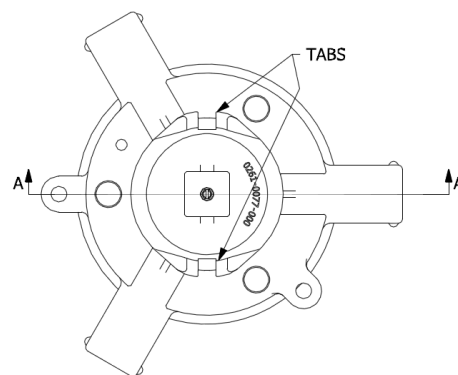
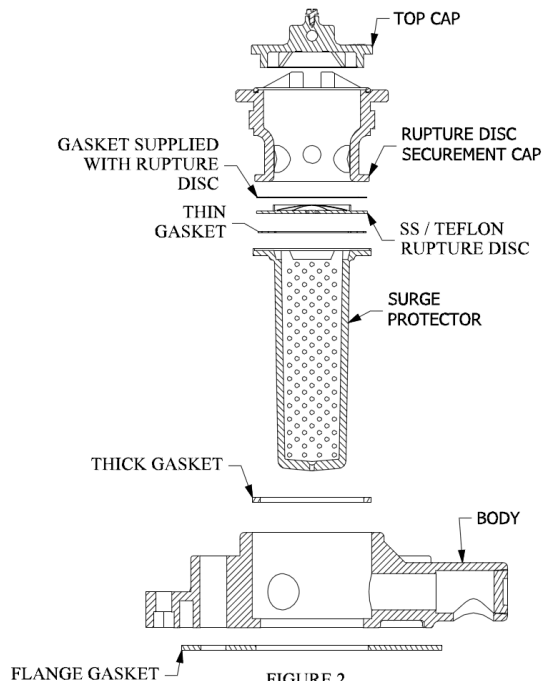

FIGURE 1
FIGURE 2
5. Remove the rupture disc securement cap and the top cap. Place the gaskets, surge protector, and rupture disc as shown in Figure 2.
10. Replace the rupture disc securement cap over the stainless steel/Teflon rupture disc as shown in Figure 2. Prior to tightening, ensure the rupture disc is centered. Tighten the rupture disc securement cap until hand-tight. Lay the Salco Products Quick Inspect Wrench (QI261HDL) across the tabs (See Figure 1.) and tighten the rupture disc securement cap an additional 1/4 turn (90°). **DO NOT OVERTIGHTEN!** Overtightening of the rupture disc securement cap can distort the disc and may affect performance.